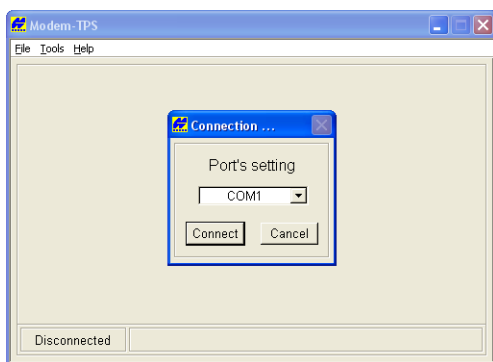

Figure 3-1. Connect to Modem-TPS
2. Open Modem-TPS, and select the COM port the receiver is connected to (Figure 3-1). Click **Connect**.